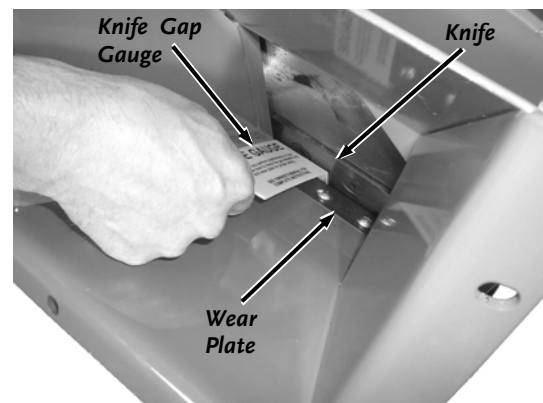

Figure 41
3. Slide the Knife Gauge in between the Knife and Wear Plate to check the clearance (**Figure 41**).
2. Take the Gap Gauge and slide it between the Knife and Wear Plate (**Figure 41**). Adjust the Wear Plate against the Knife Gauge and tighten the Locknuts.